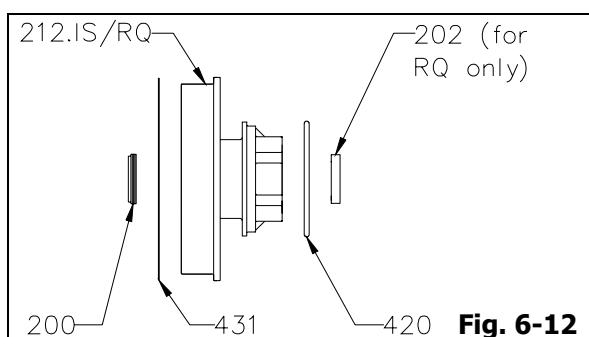

Fig. 6-12
6. Remove stuffing box cover "O" ring (420) and stuffing box cover gasket (431) from stuffing box cover (212.IS/RQ).
7. Remove stationary portion of mechanical seal (200) gently from stuffing box cover (212.IS/RQ).
8. For single internal with rear quenching, remove v-seal (202) from stuffing box cover (212.RQ) (Fig. 6-12).